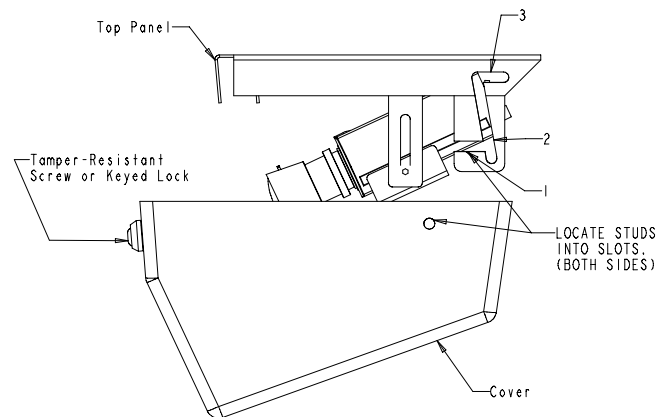

Figure 11: Installing the Cover
- Mount the cover by aligning the two studs near the rear of the cover with the openings of the z-shaped slots in the top panel. Slide the cover to the rear, then upward and finally to the rear again. Tighten tamper-resistant screw or lock with key. See figure 11.